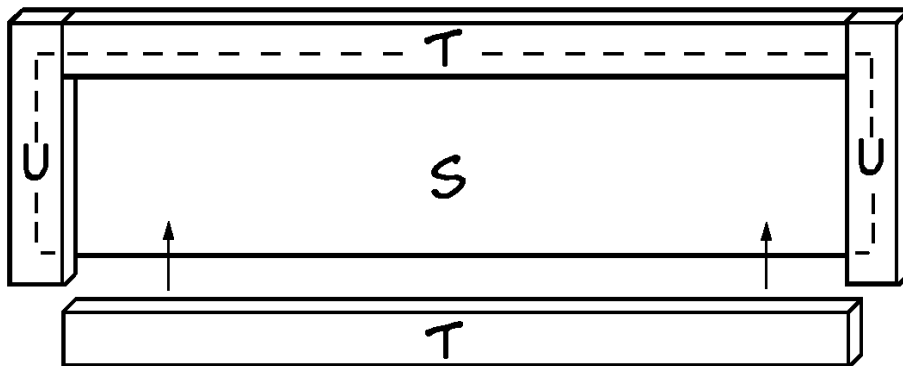

Figure 10
1. The drawer fronts are nothing more than rectangles of laminated pine trimmed with a border of 1 x 3 pine. You'll need to make sure that each finished assembly is perfectly square. Start by cutting one 8-1/2" x 35-1/2" drawer front (S) from laminated pine.
2. Cut two 33"-long top/bottom trim pieces (T) from 1 x 3 pine.
3. Cut two 11'-long side trim pieces (U) from 1 x 3 pine.
4. Using *Figure 10* as a guide, place the four trim pieces (T and U) on a level surface. Center the drawer front (S) over the trim pieces, leaving a 1-1/4" border of trim visible on each of the four sides of the drawer front (S). Glue and nail the pieces together, using 3d finishing nails spaced about 4" apart.